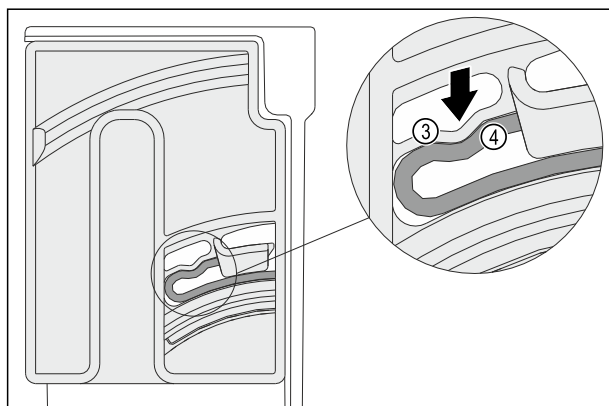

Fig. 97
- The elastic element Fig. 97 (3) of the turning unit audibly engages in the round shape of the rib Fig. 97 (4).